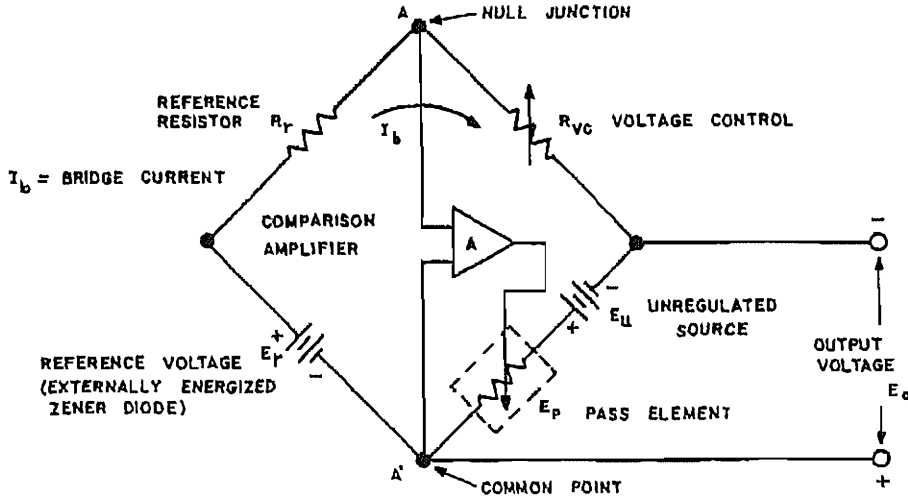

FIG. 3-4 KEPCO POWER SUPPLY AND COMPARISON BRIDGE CIRCUIT.
3-8 **GENERAL.** A few general remarks may be in order to familiarize the user of this equipment with the terminology and basic equations pertaining to remote programming of the Kepco PAT Power Supplies. Electrically, the power supply consists of the unregulated d-c source (E_U), the pass element (E_P), the d-c error amplifier (A), and a comparison circuit which resembles a 4-arm electrical bridge. (Refer to FIG. 3-4.) The elements of the bridge are arranged to produce a virtual zero at the amplifier input when the bridge circuit is at balance ($V_{AA'} = 0$). Any tendency for the output voltage to change in relation to the reference voltage (E_r) creates an error signal which, by means of negative feedback and the amplifier, tends to correct the output voltage towards restoration of bridge balance.